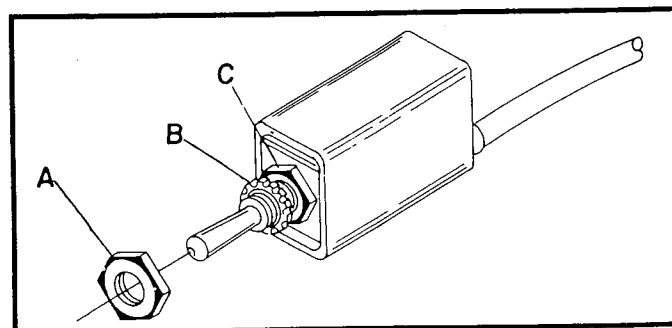

Fig. 7
2. Remove the outer hex nut (A) Fig. 7, from the switch stem. Leave external tooth lockwasher (B) and inside hex nut (C) on switch stem. **CAUTION:** The proper grounding of the switch to prevent shock hazard, depends on the use of the external tooth lockwasher in the manner shown.